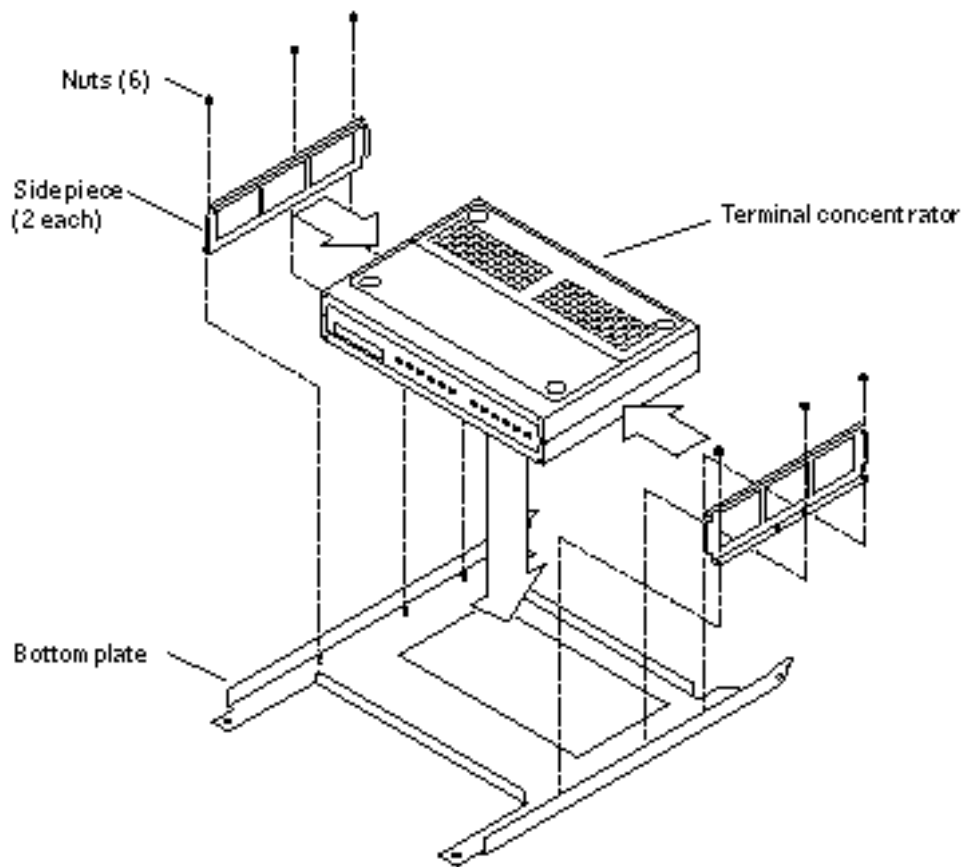

Figure 2-2 Assembling the Terminal Concentrator Bracket
- a. **Place the side pieces of the bracket against the terminal concentrator, as shown in Figure 2-2.**